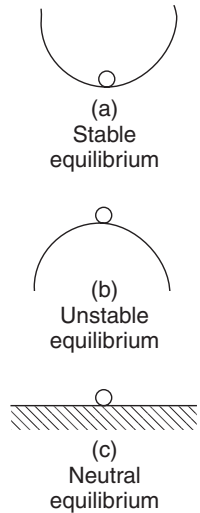

Figure 3.2
original position. Thus a ball bearing in a hemispherical cup is in stable equilibrium, as shown in Figure 3.2(a).
- (ii) An object is in **unstable equilibrium** if, when a disturbing force is applied, the centre of gravity is lowered and the object moves away from its original position. Thus, a ball bearing balanced on top of a hemispherical cup is in unstable equilibrium, as shown in Figure 3.2(b).
- (iii) When an object in **neutral equilibrium** has a disturbing force applied, the centre of gravity remains at the same height and the object does not move when the disturbing force is removed. Thus, a ball bearing on a flat horizontal surface is in neutral equilibrium, as shown in Figure 3.2(c).